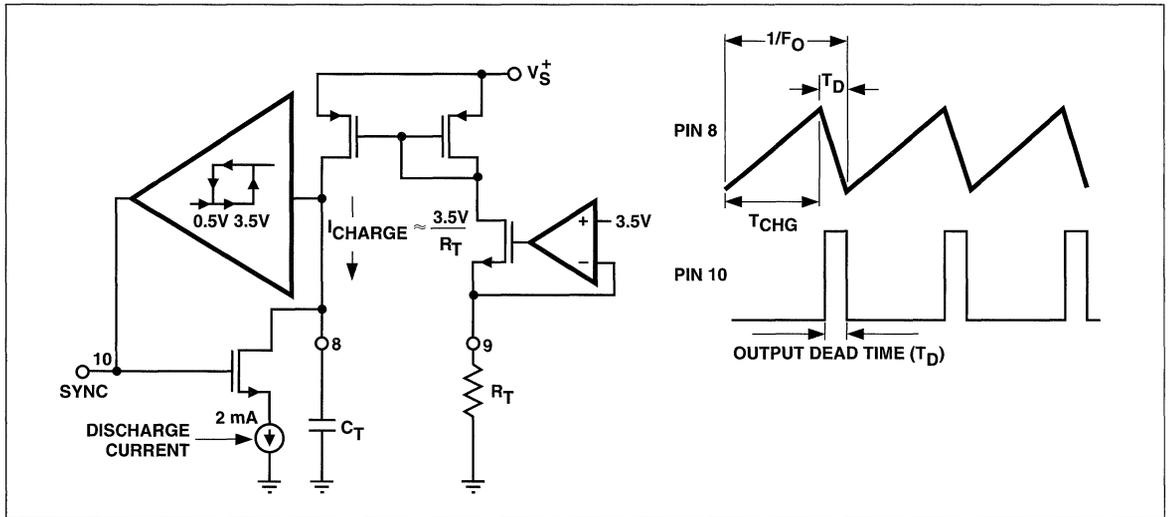

Figure 6 Oscillator Circuit
- 1) First determine the frequency of operation F_O and the desired "dead" time", T_D (see Fig.6 graph).
- 2) The current mirror in Fig. 6 , shows: